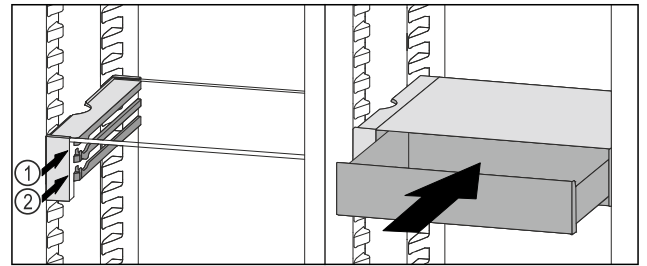

Fig. 99
- Place the VarioSafe drawer behind the stoppers on desired rib *Fig. 99 (1)* or *Fig. 99 (2)*.